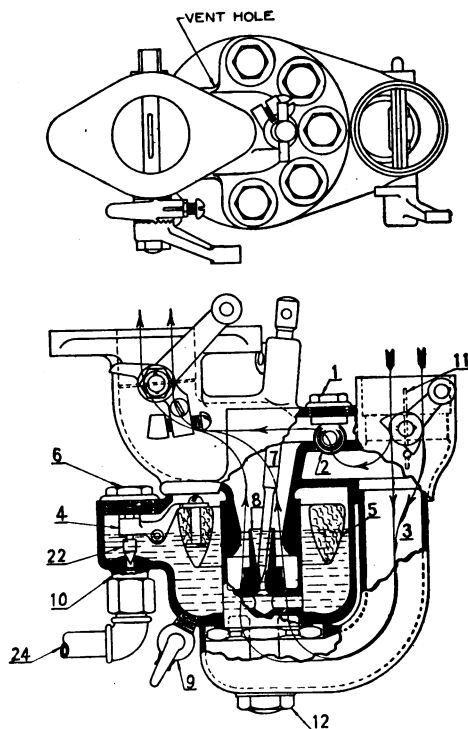

Fig. 95. Plan and Section of Kingston Enclosed Carburetor
*Enclosed Type.* The Kingston enclosed type, as shown in Fig. 95, differs from the type previously shown in that the auxiliary air valves in the form of various sizes of steel balls are used. These are normally seated, but they are lifted from their seats by increased suction.